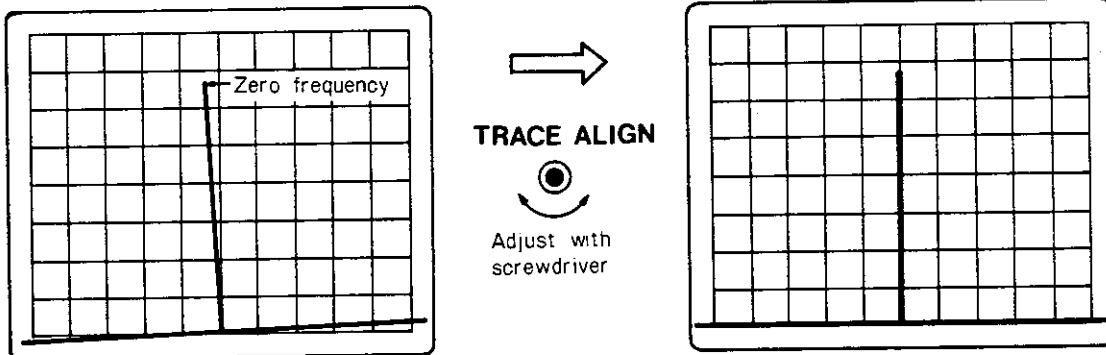
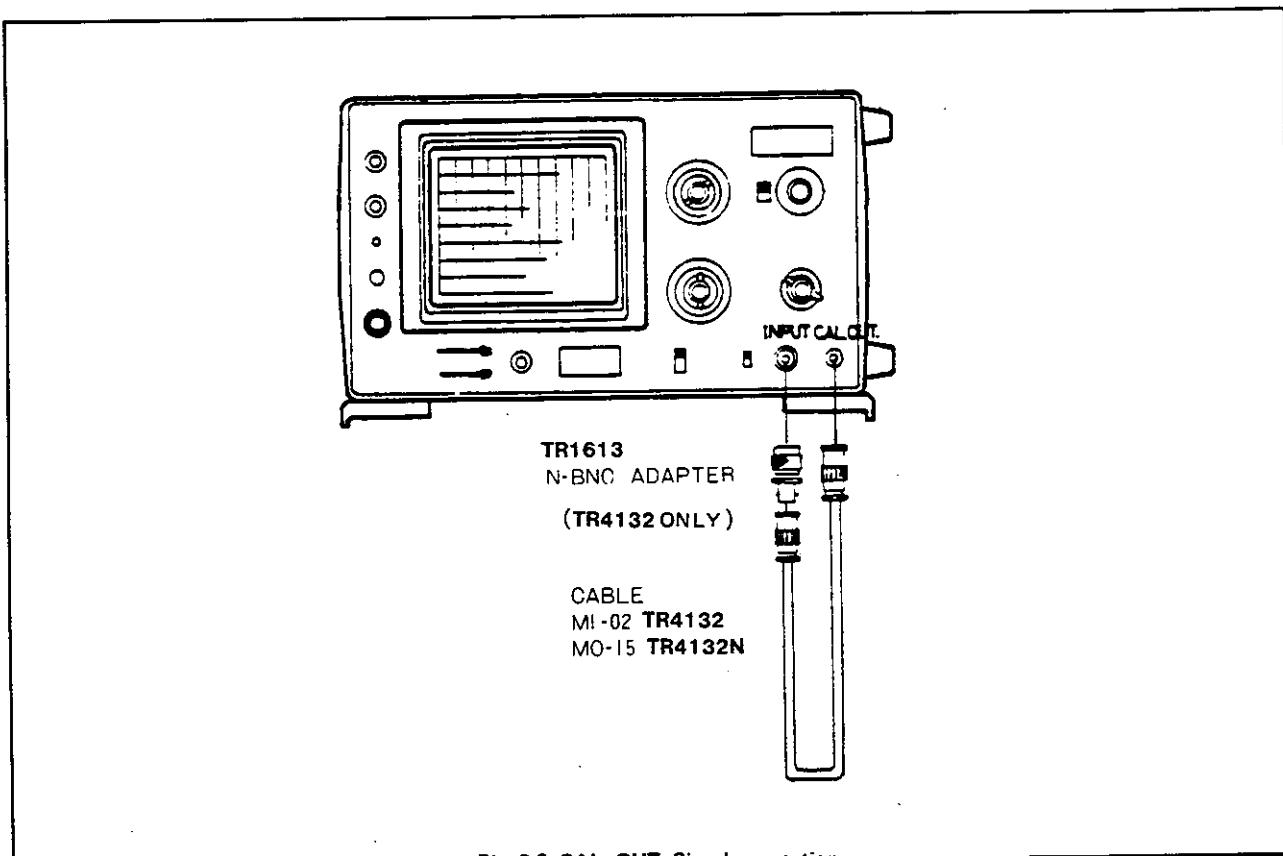
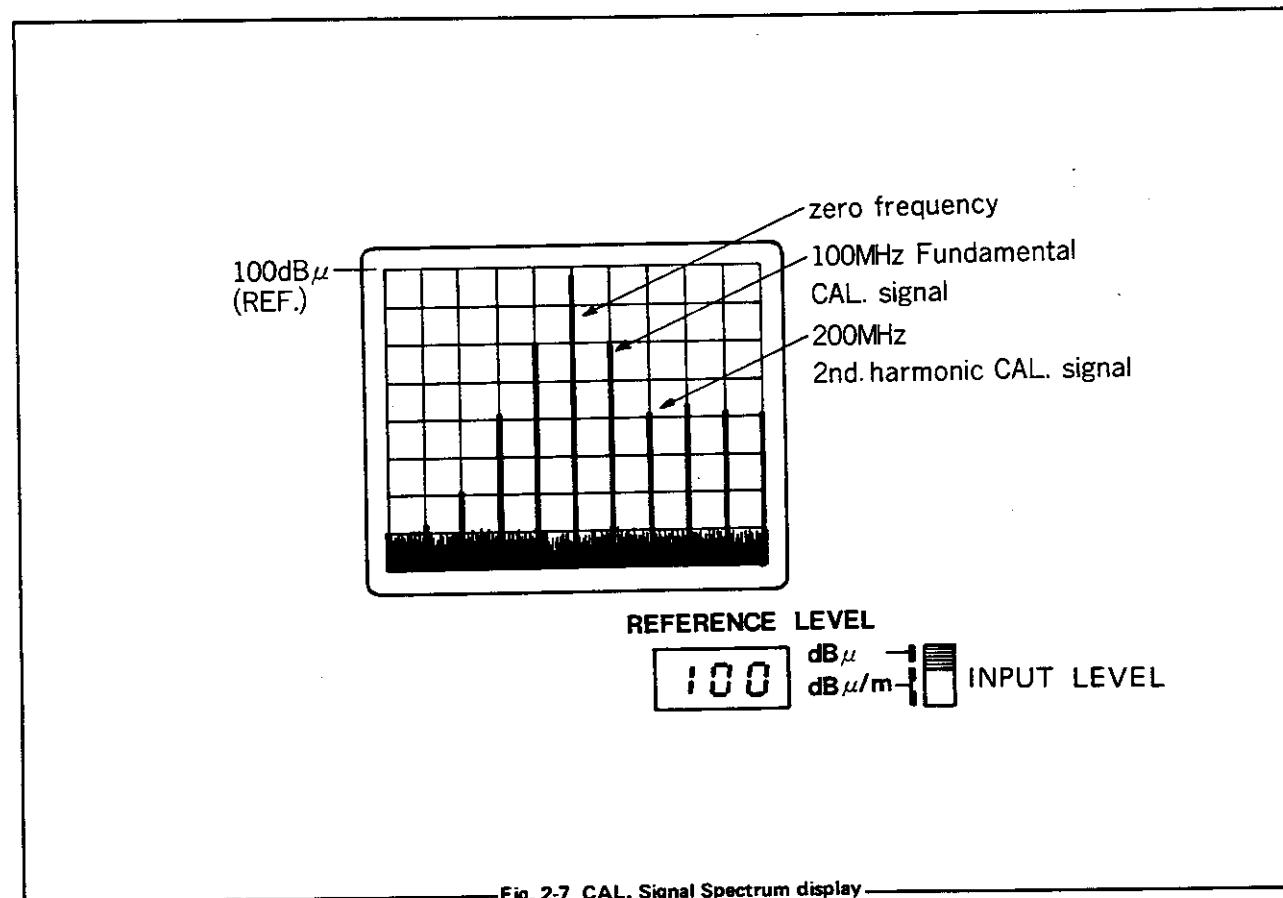

Fig. 2-5 Trace Align Adjustment
Fig. 2-6 CAL. OUT. Signal connection
Fig. 2-7 CAL. Signal Spectrum display
- (6) In case the trace is indistinct, adjust **FOCUS** control. Unless brightness of the trace is appropriate, it is difficult to obtain a clear focus.
- (7) When the trace is tilted relative to the horizontal scale of the CRT display, adjust **TRACE ALIGN** with a screw driver to bring it correctly on the graticule line. [Fig. 2-5]
- (8) Adjust **TUNING** control to correspond zero frequency trace at the center of CRT display. Adjust **ZERO ADJ.** to obtain a reading of 000 on **CENTER FREQUENCY** display.
- (9) **TUNING** is effected by 2-stage controls of rough and fine. Inner **FINE** control is a 3-turn fine adjustment with an adjusting range of 10MHz or wider. Therefore, it is convenient to use it when **DISPERSION/DIV.** switch is below 500kHz/DIV.
- (10) Connect **CAL. OUT.** to **INPUT** using the N-BNC adapter with BNC-BNC cable **MI-02** for **TR4132**. Use **MO-15** cable in the case of **TR4132N**. [Fig. 2-6]
- (11) Verify that **REFERENCE LEVEL** displays 100dB $\mu$  at this state.
- (12) The level of 100MHz fundamental spectrum of **CAL.** signal is 80dB $\mu$ . Therefore, it is displayed at a point 20dB below the top line (**REF.**) of CRT scale. [Fig. 2-7] If not displayed at this position, adjust **IF GAIN (dB)-CAL.** Spectra also appear at left of the zero frequency spectrum, but levels and frequencies of the spectra are not accurately displayed.
- (13) Rotate **IF GAIN** clockwise and verify that the signal on CRT display goes upward on 10dB step. At this time, the noise level also increases. Verify that **REFERENCE LEVEL** indicates increases on 10dB step.
- (14) Rotate the inner (1dB) switch of **IF GAIN** clockwise, and see that the signal on CRT display goes upward in 1dB increments. If the inner 1dB switch of **IF GAIN** is turned counter-clockwise, the signal will goes downward in 1dB increments and **REFERENCE LEVEL** display will increase in 1dB increments.
In the case the trace has tilted due to terrestrial magnetism or system of magnetism, adjust TRACE ALIGN on the front panel. [Fig. 2-5]